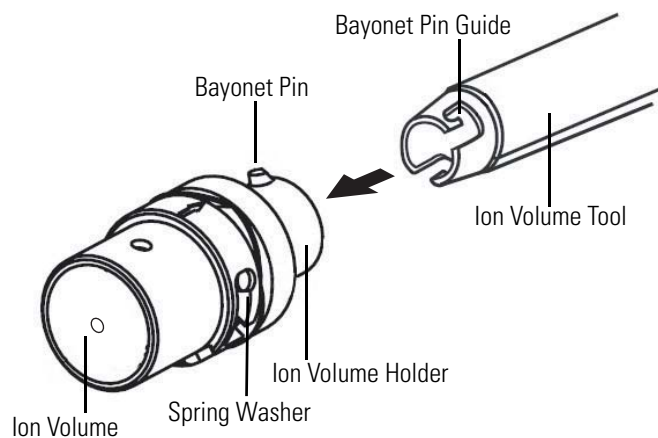

Figure 3-22. Ion volume assembly
- b. Remove the ion volume from the ion volume tool. Using clean gloves, press the ion volume into the tip of the ion volume tool and rotate it to disconnect the bayonet pins from the pin guides. Pull the ion volume out of the ion volume tool, as illustrated in Figure 3-22.